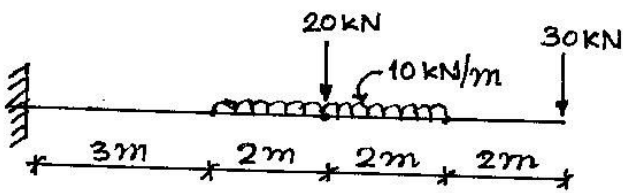

FIG 7 Q 3 (c) OR
- (c) Draw shear force and bending moment diagram for beam shown in **fig 7**. **05**